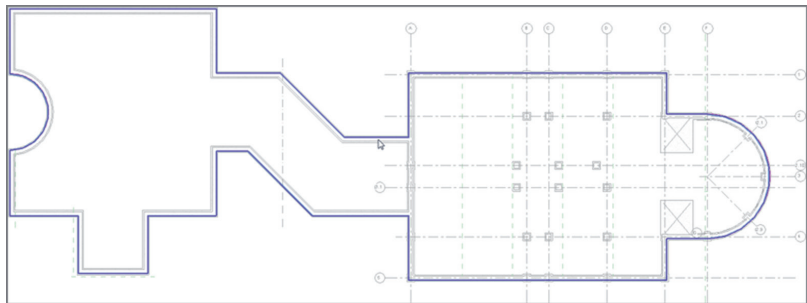

FIGURE BC3.22: Place the pad 1" (25 mm) to the outside of the wall.
10. Set Offset to 1" (25 mm) on the Options bar, and pick walls to place the pad against the outside of the foundation wall underneath the entire model, as shown in Figure BC3.22. Trim the sketch lines as necessary.